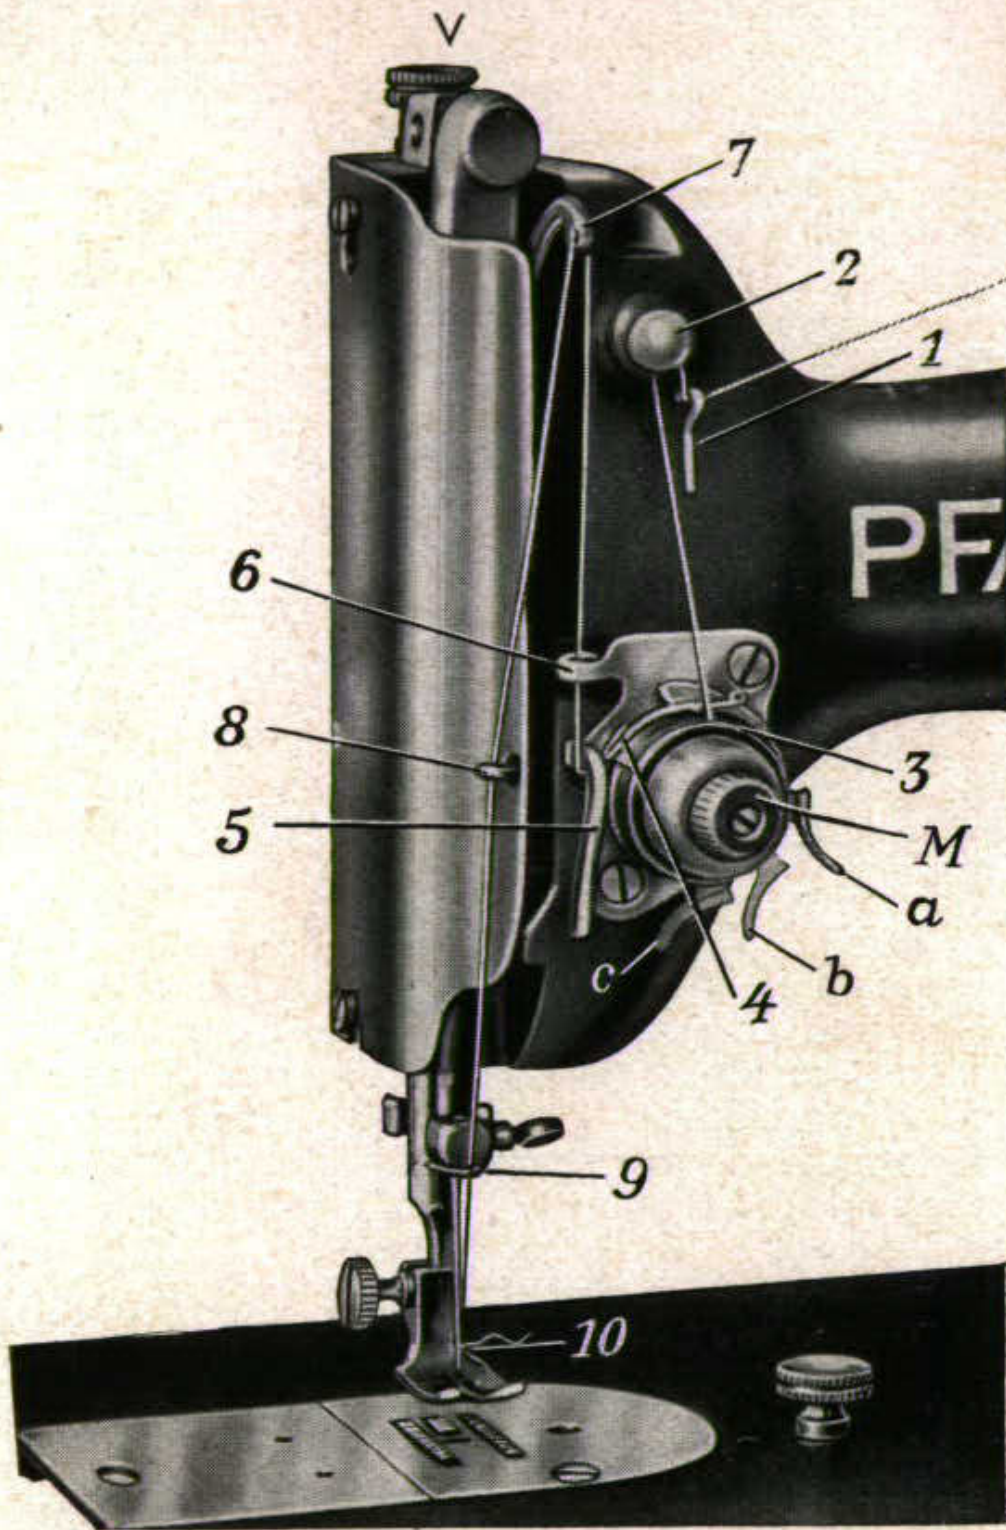

Fig. 4
Put spool on spindle, draw through hook guide 1, around circular guide 2, around the tension discs 3, and through check spring 4, around guides 5 and 6, and into the lower hole of the take-up 7, down through thread guide 8 into guide above the needle 9—and thread needle from front to back. (Fig. 4).
The tension of the upper thread is regulated by means of tension nut (M), (Fig. 4). Turning this screw clockwise, the tension will become tighter. Unscrewing it, counter-clockwise, it will become looser.
Screw or unscrew the bushing (V), (Fig. 4), to increase or decrease pressure of the presser foot, and to regulate it for the type of material used.
For embroidering and darning, ease the tension of the thread controller spring a little more than in the case of sewing. When working on thick or hard materials, the tension should be tighter. To tighten the tension, turn the lever of the tension sleeve as shown in Fig. 4.